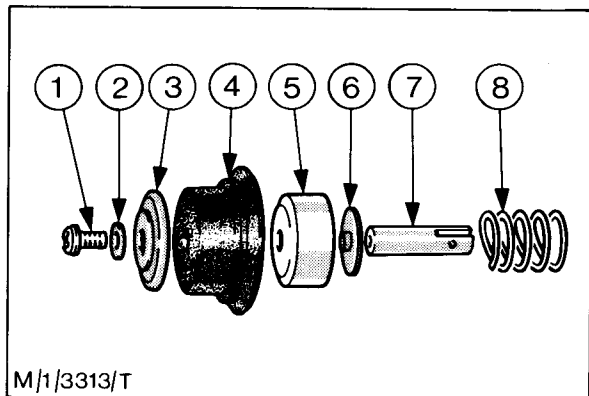

Fig. 57 - Piston and Diaphragm Assembly
6. Fit the diaphragm to the piston. Fit the bottom plate to the piston and the retaining plate above. Fit the operating rod below the bottom plate and secure the components with a crosshead screw and new felt washer (Fig. 57).